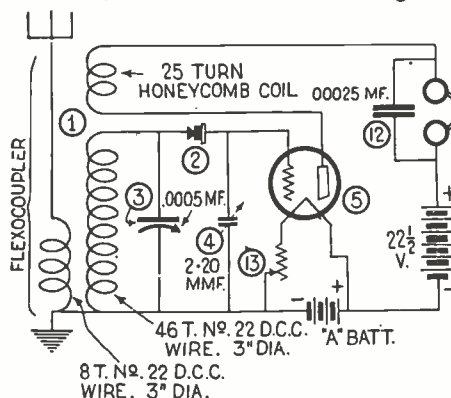

Fig. 1. The fundamental circuit of the Regenerative Interflex, showing the crystal detector, 2, in the grid circuit.
Let us first see what happens in the fundamental circuit shown in Fig. 1. Here we have first a crystal detector inserted into the grid circuit. The crystal, in order to operate correctly, must act as a detector. That means that the tube to which it is connected becomes an amplifier. We now feed back energy from the plate to the grid circuit. It is evident that the crystal (2) is not only a detector but also acts as a resistance, and if this resistance becomes too great, the set will not oscillate (squeal). If the resistance
If the constructor wishes to build a one-tube set, he should go about it as shown in Fig. 1. Such a one-tube set, by the way, will bring in local stations with a fair volume on the loud speaker, a point that may be of more than passing interest. The one-tube set, as far as distance is concerned, will, of course, do the same thing as the three-tube set, except that for long distance or DX, you will have to use a pair of 'phones, whereas the three-tube set will bring in, not only the local, but distant stations with great volume.